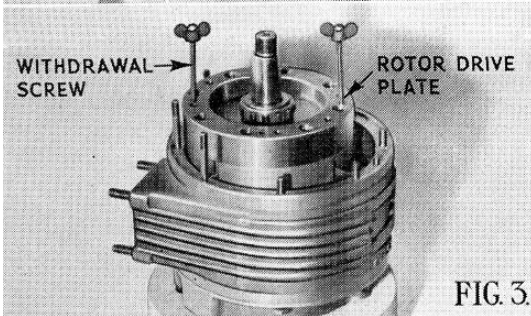

FIG. 3.
3. Remove Rotor Drive Plate, using two $\frac{3}{16}$ " Whitworth withdrawal screws (Fig. 3), in tapped holes provided. Take care to withdraw plate squarely.